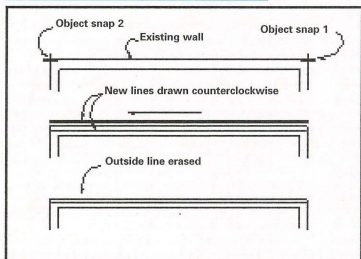

Figure 1
5. Now, object snap to the first two outside corners of your wall, going counterclockwise in the order of the top of Figure 1. Two lines will be drawn, one in the center of the wall and another to the outside, shown in the middle of Figure 1. Press the right button on the mouse (button 3) to quit drawing the line, then press the [E] undo button to erase the last line, shown in the bottom of Figure 1. If you drew the line counterclockwise, the outside line will erase. This may take a few tries to get the swing of which side of the wall to object snap to. Sometimes you might have to erase the extra lines using Entity (wait till the end and do them all at once). If you made them all on a separate layer, selecting the extra lines is easy.